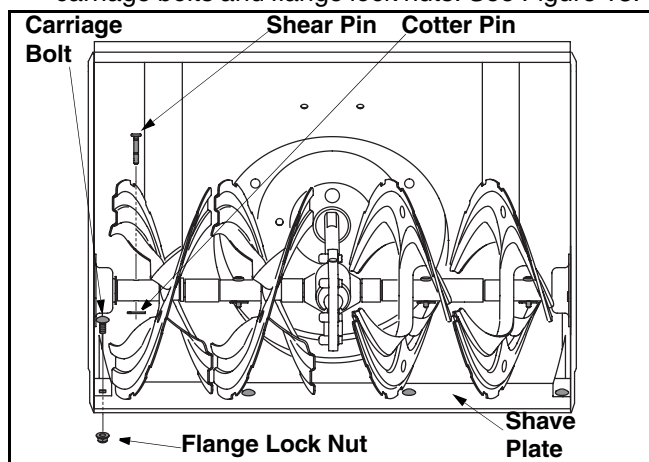

Figure 13
- The augers are secured to the spiral shaft with two shear pins and cotter pins. If you hit a hard foreign object or ice jam, the snow thrower is designed so that the pins may shear. Refer to Figure 13.
- To remove skid shoes, remove four carriage bolts and flange lock nuts which attach them to the snow thrower. Reassemble new skid shoes with the four carriage bolts and flange lock nuts. See Figure 13.
- To remove the shave plate, remove the carriage bolts and flange lock nuts which attach the shave plate to the snow thrower housing. See Figure 13.